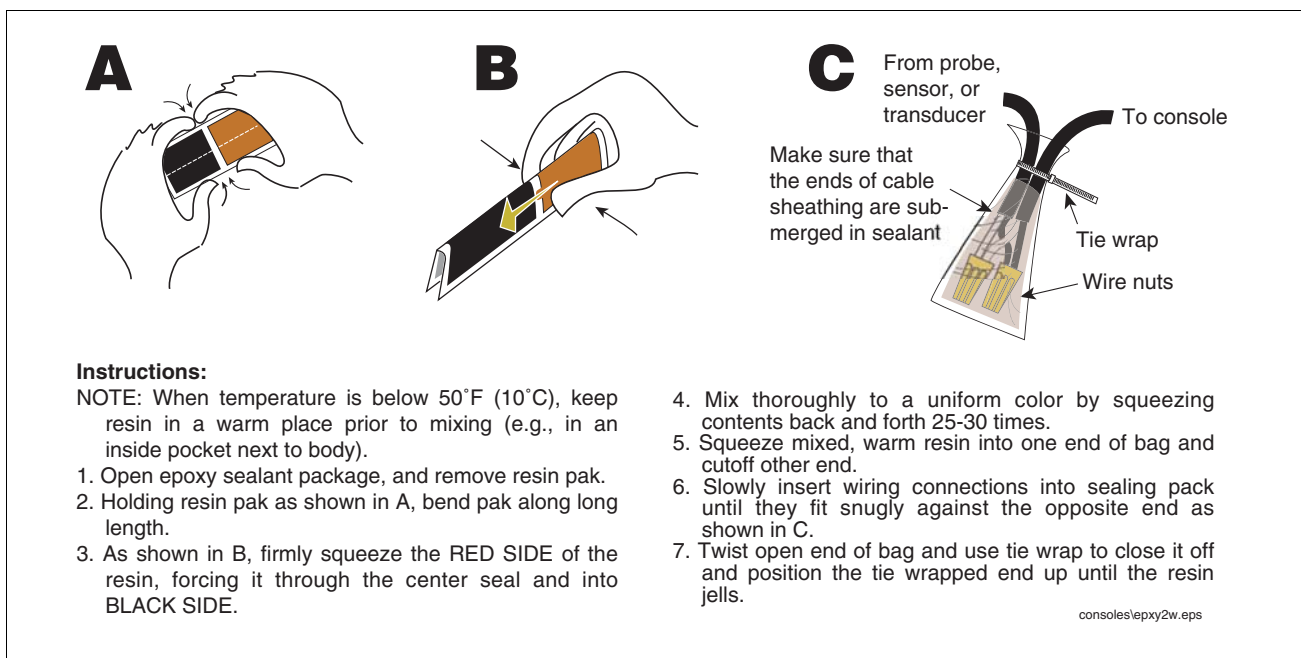

Figure 5. Epoxy sealing field wiring
1. Seal wire nuts with epoxy sealant following the instructions in Figure 5. Note - wire sealing is not required for installations using a wireless interface.